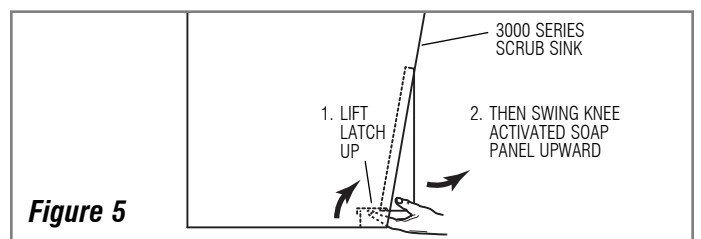

Figure 5
For 3000 Series Scrub Sinks, lift the Latch under the Knee Activated Soap Panel, then lift Knee Activated Soap Panel to gain access to mounting holes. Refer to Figure 5. Mark all four (4) Anchoring Hole locations using Sink as a template. Refer to Figure 6.